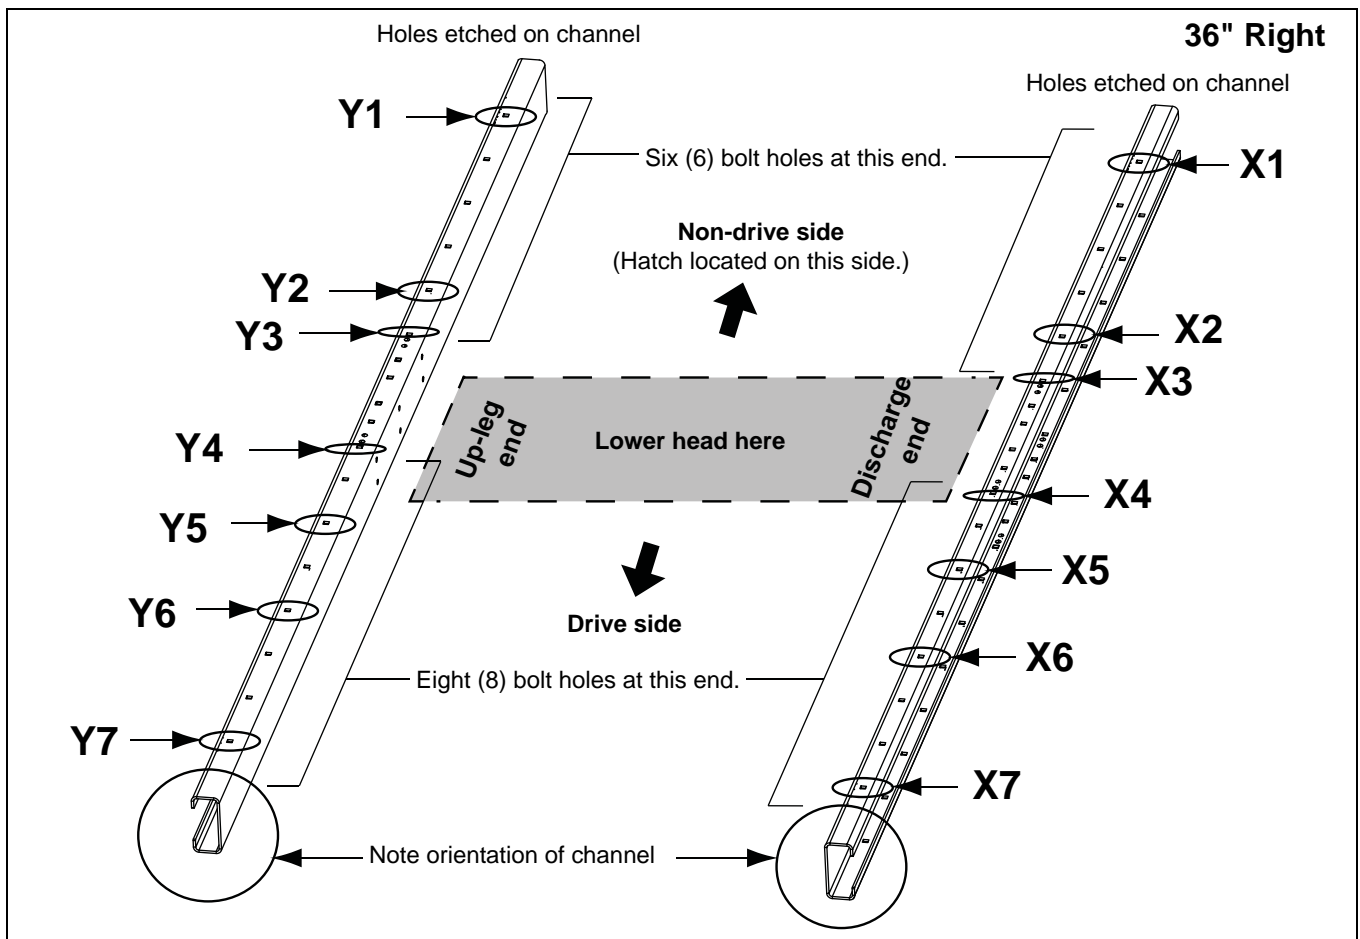
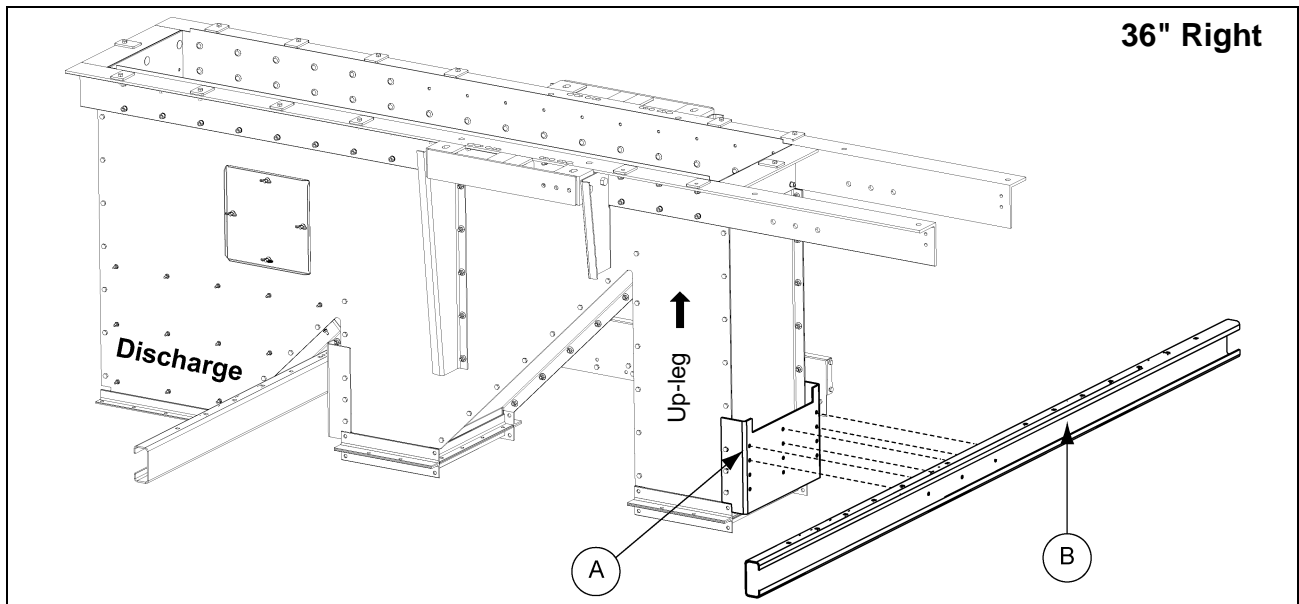

Figure 8D 36" Right Side Drive Channel Position
Figure 8E
(See Figure 8D on Page 55.)
3. Attach cross deck support channels (HP36CDSCX) to the top-most set of holes of the lower head brackets (HSP36130) using 3/8" x 1" bolts and nuts and torque properly. *(See Figure 8E on Page 55.)*
- *NOTE:** *The channels MUST be oriented as shown in Figure 8D and Figure 8E on Page 55 in order for the decking and subsequent assembly to be done correctly.*